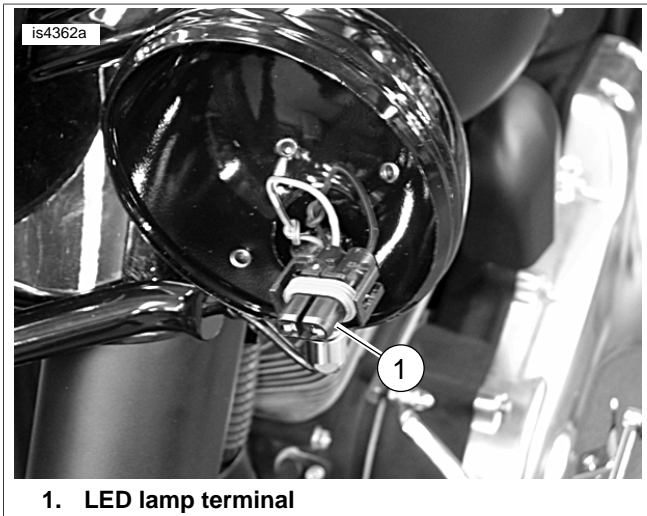

Figure 2. Auxiliary LED Lamp Terminal
8. See Figure 2. Place inner nesting ring on bulb. Connect bulb to item (1) connector.